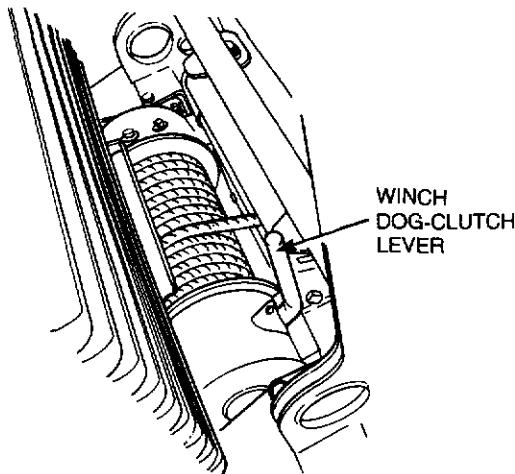

Figure 2-8 Winch dog-clutch operation
- a. Ensure that the engine is switched OFF, then set the winch dog-clutch lever to the vertical position (see Fig. 2-8) to disengage the dog-clutch. Reel out the winch rope as required.